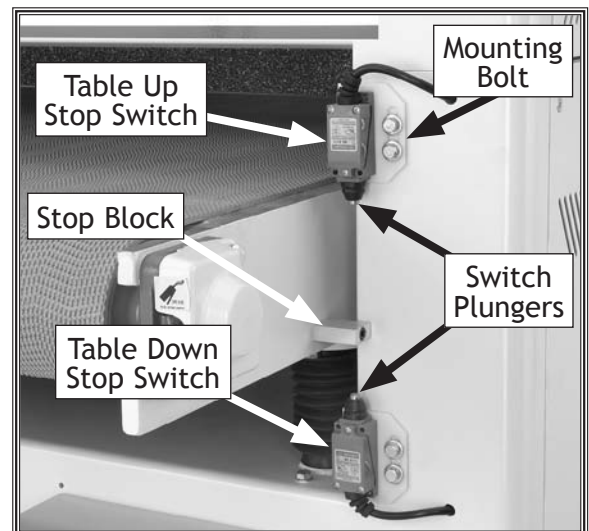

Figure 35. Table stop switch adjustment locations.
3. Loosen the mounting bolt for the table-down stop switch and slide the switch so the switch plunger depresses against the stop block and you hear the switch click (see **Figure 35**).
6. Loosen the mounting bolt for the table-up stop switch and move the switch so the switch plunger depresses against the stop block and you hear the switch click (see **Figure 35**).